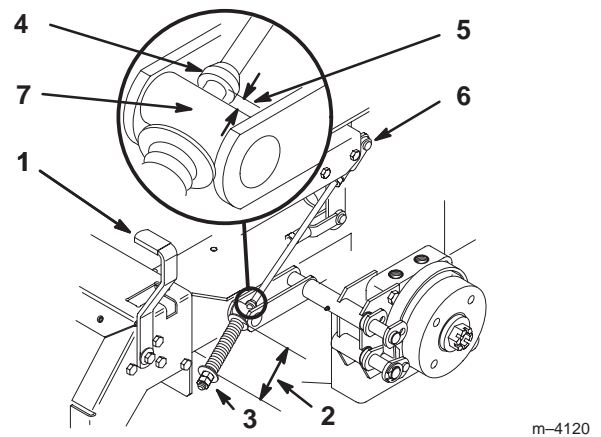

Figure 59
2. Measure the length of the spring. The measurement should be 2-3/4 in. (70 mm) between the washers (Fig. 59).
3. If an adjustment is necessary, loosen the jam nut below the spring and tighten the nut directly below the yoke (Fig. 59). Turn the nut until the correct measurement is obtained. Tighten the two nuts together and repeat on the opposite side of the unit.
6. Measure the distance between the trunnion roller and the collar on brake rod. The measurement should be 3/16-1/4 in. (5-7 mm) (Fig. 59).
7. If an adjustment is necessary, loosen the jam nut directly below the yoke. Turn the bottom adjusting nuts until the correct measurement is obtained (Fig. 59). Tighten the jam nut at the yoke.